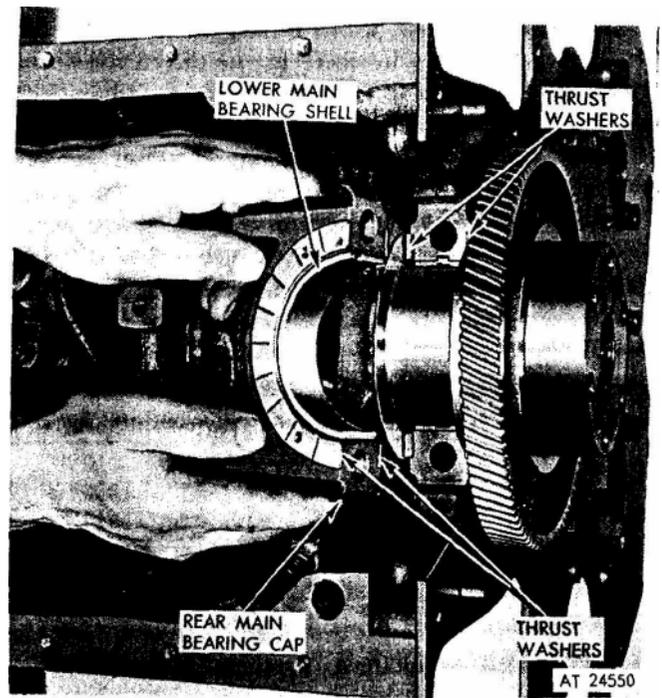

Figure 7. Rear main bearing thrust washer and mounting.
2. Assemble crankshaft thrust washer before installing rear main bearing cap. Clean both halves of thrust washer carefully, removing any burrs from the seats — the slightest particle of dirt may decrease clearance between washers and crankshaft beyond limits. Slide upper halves of thrust washers into place in their grooves, as shown in figure 7; then assemble lower halves *over* dowel pins in bearing cap.